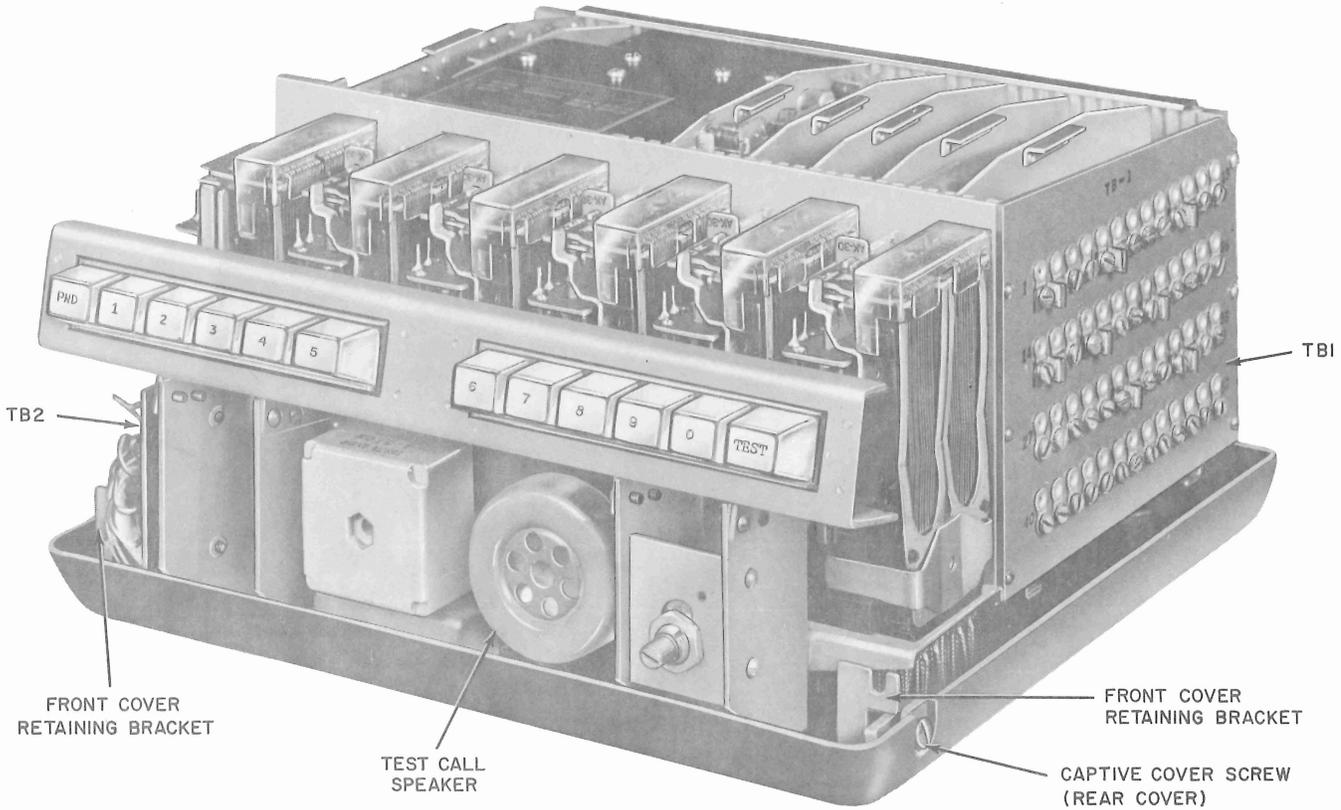

Fig. 3—Data Auxiliary Set 801A-Type, Front Inside View
2.06 When the Data Auxiliary Sets are placed in the test mode all call progress tones (Dial tone, ringing, etc.) can be monitored on the call test speaker. The call test speaker is located under the ACU cover. Refer to Fig. 3 for a view of the ACU with the cover removed and the location of the call test speaker.